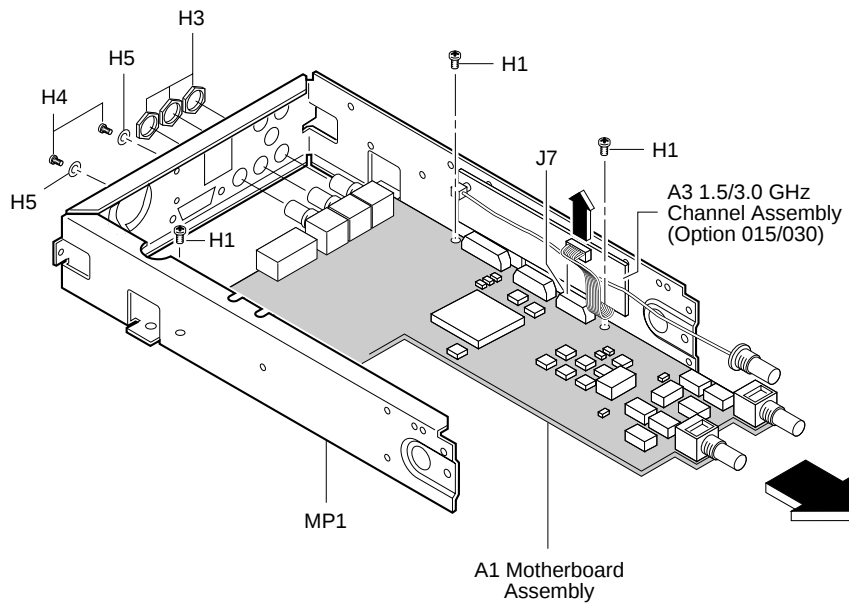

Figure 3-6. A1 Motherboard Assembly Removal
4 If the Counter contains Option 015/030/050/124 1.5/3.0/5.0/12.4 GHz Channel, disconnect the optional channel's flat-ribbon cable from J7 on A1 Motherboard Assembly as shown in Figure 3-6.
7 Remove the two hex screws (H4), shown in Figure 3-6, on the rear-panel HP-IB connector using the 7-mm spin tight.
- 8 Remove the BNC nuts (H3), shown in Figure 3-6, from the rear of the chassis using the 14-mm deep-socket spin tight (Opt 015/030 only). Remove knurled nut for Option 050.**
- 9 Remove the three screws (H1) in A1 Motherboard Assembly as shown in Figure 3-6.**